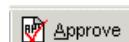

Figure 6-60. Approve button
1. Click the **Approve** button (Figure 6-60) or select **Approve** from the **Order** menu. The **Approve** button is located on the toolbar at the top of **Purchase Order** dialog box in order to avoid any accidental usage.